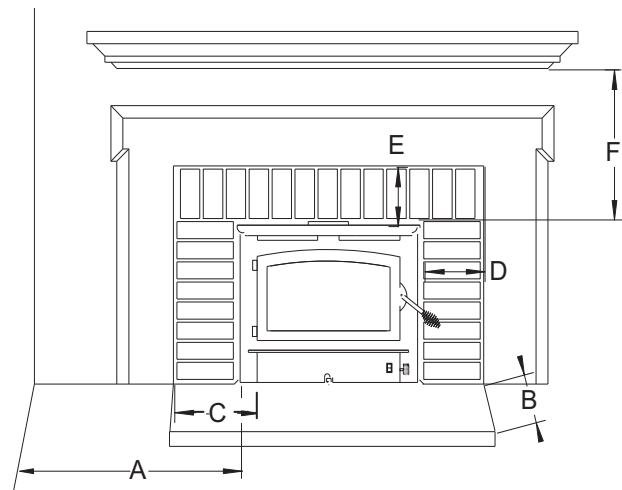

Figure 4
1. The hearth must be of masonry construction and must extend a minimum of 16" in front of firebox opening and a minimum of 8" to either side of the firebox opening. (See Figure 4).